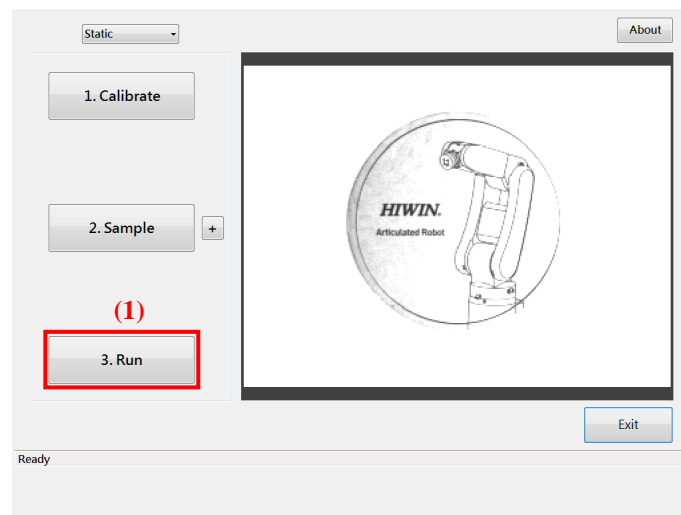

Figure 9-1 Start static pick and place test run
(1). As shown in Figure 9-1, press the "3. Run button" to start the test run.